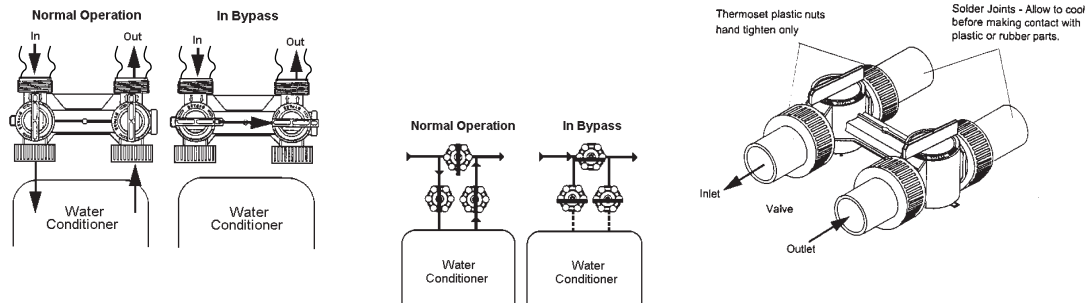

Figure 3
- Step 13) Partially open INLET knob on bypass valve (Figure 3). This will allow the unit to fill slowly from the bottom up, reducing air entrapment. Allow unit to fill slowly, failure to do so could result in loss of resin to the drain. Once a steady stream of water, no air, is flowing to drain the inlet and outlet knobs on the bypass can be fully opened (refer to Figure 3).